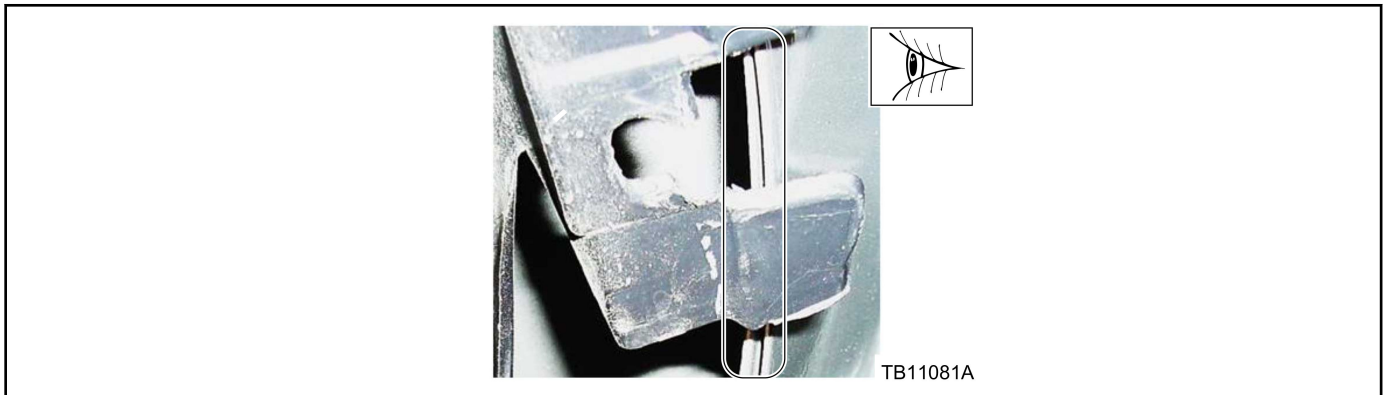

Figure 13 - Article 17-0044
- c. Inspect the lower front edge of the wheel arch for gaps. Seal as necessary using Motorcraft® Seam Sealer or equivalent. (Figure 13)